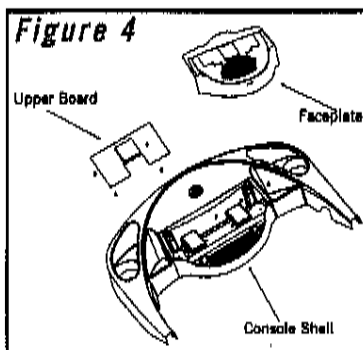

Figure 4
- 6) Remove screws holding upper board to faceplate (console pannel for 2001-2004 models) and replace old upper board with new one. (Figures 4, 5, 6)